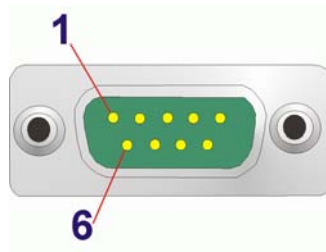

Figure 3-30: Serial Port Pinout Locations
- CN Pinouts:** See Table 3-29 and Figure 3-30